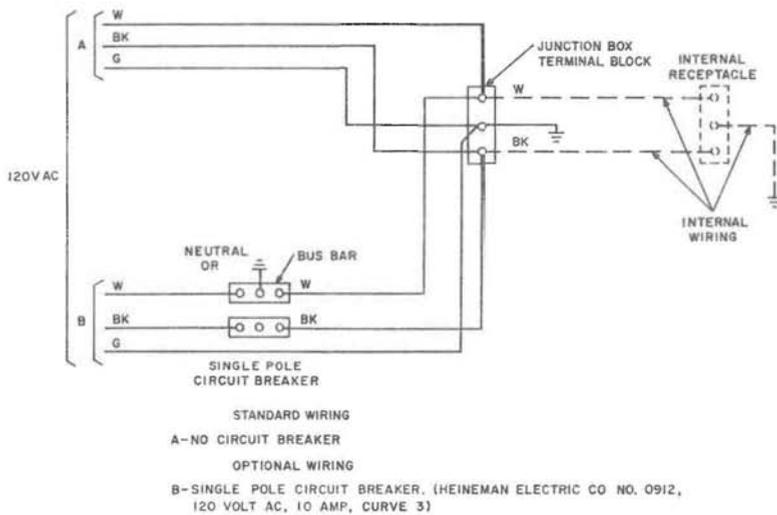

Fig. 23—Wiring Diagram
- 3.65 Use Fig. 23 as a guide for internal wiring.